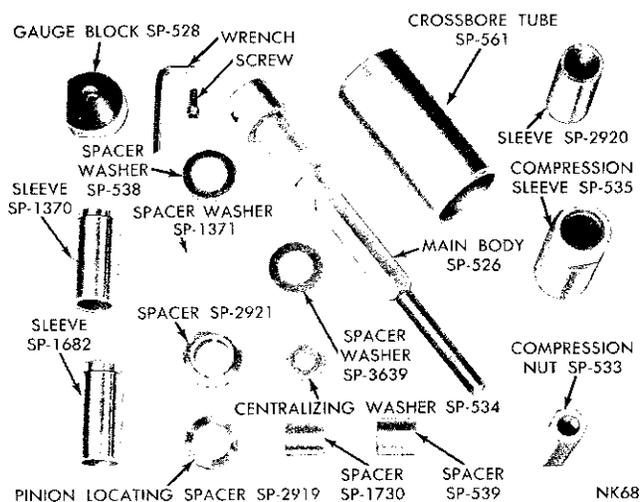

Fig. 24—Rear Axle Setting Gauge Set Tool C-758-D4
(1) Place the bearing cups squarely in position. Assemble Tool C-758 (Fig. 24) by placing spacer SP-2919 (on Chrysler Newport AC-1) followed by the rear pinion bearing cone over the main screw of the tool and inserting it into the carrier from the gear side.